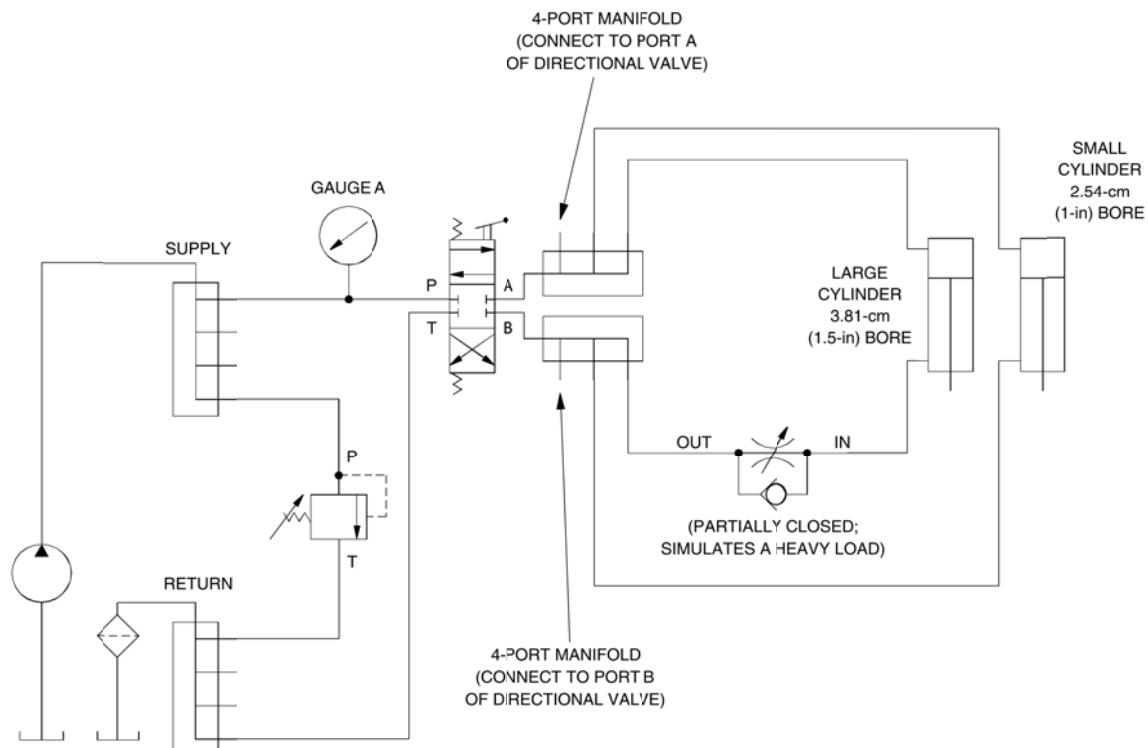

Fig.3. Cylinders in parallel with a heavy load on the large cylinder
- Connect the circuit shown in Fig. 3.
- Examine the circuit in Fig.3. The cylinders are in parallel with each other. The Flow Control Valve acts as a loading device on the large cylinder [3.81-cm (1.5-in) bore] only, so the cylinders are unevenly loaded. The Flow Control Valve is partially closed to simulate a heavy load on the large cylinder.